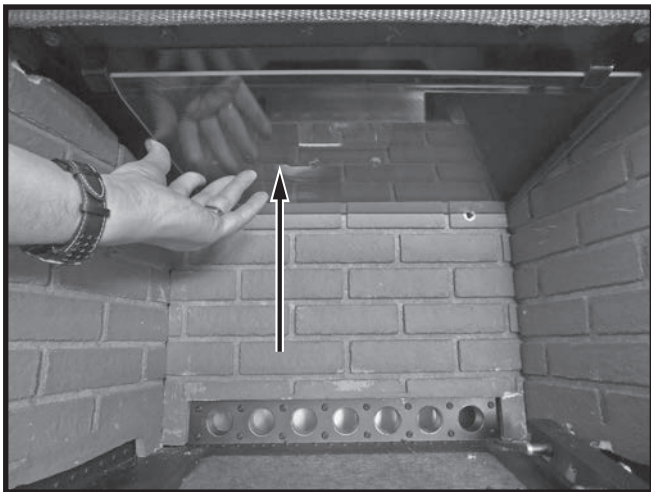

Figure 31: Raising baffle above front support.
2. Raise the opposite end of the baffle so that it is raised above the supports on the other side of the firebox (Figure 31).